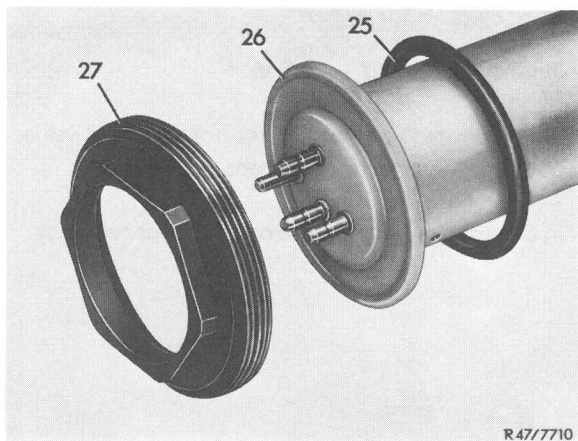

Fig. 35
- 4 Loosen hex. head closing screw (27) of immersion tube pickup (26) and remove pickup (Fig. 35).
5 For installation proceed vice versa, using a new O-ring (25) (Fig. 35).